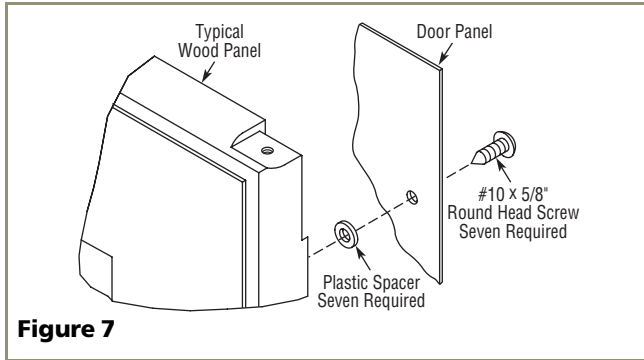

**Figure 5**
1. Place and tape the existing door panel on the back of the overlay panel (see **Figure 5**) and drill holes through both panels according to **Figure 6**. Remove tape adjoining the panels and enlarge the six holes in the overlay panel using a 0.201" (#7) drill.